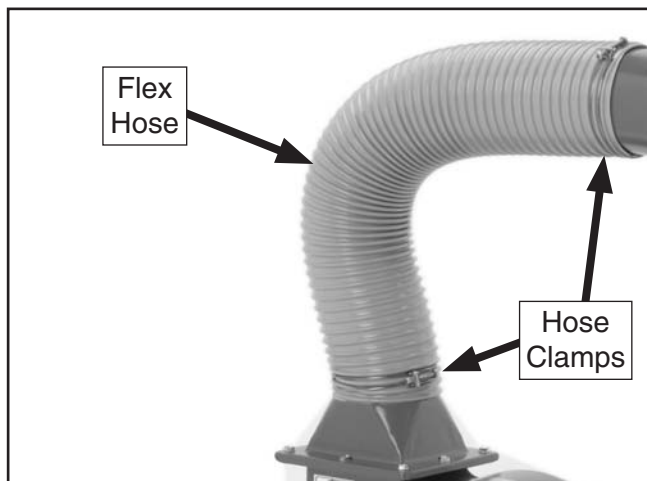

Figure 29. Attaching flex hose onto collector body outlet.
7. Slip a loosened hose clamp over each end of the flex-hose, and position the hose ends over the outlets, as shown in **Figure 29**. Tighten each hose clamp until snug.